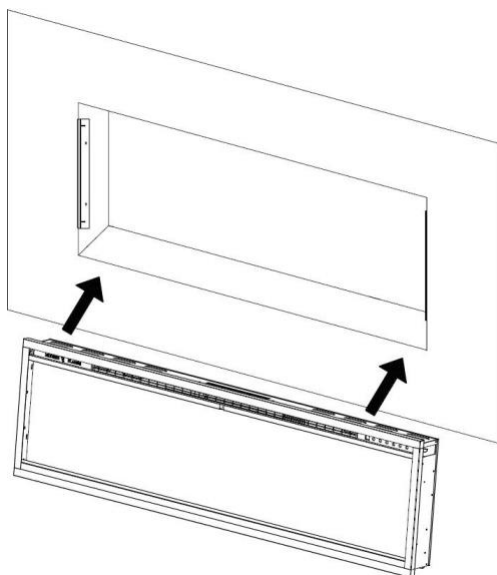
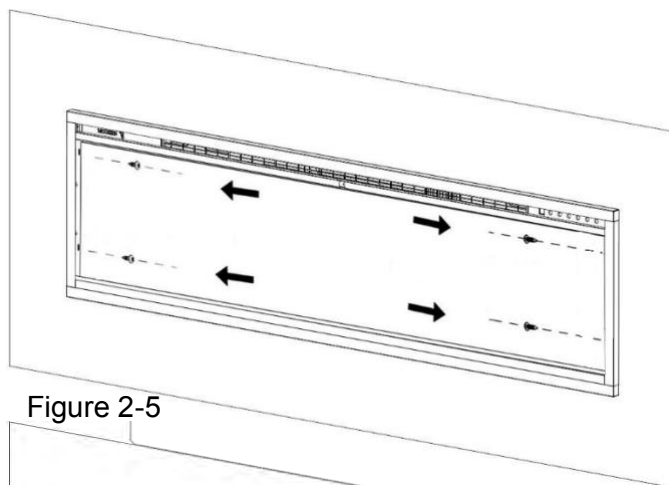

Figure 2-4
Figure 2-5
E. Insert the appliance into the rough-in frame (Fig. 2-4) and then secure it by installing 4 screws (supplied) into the slots on the insides (2 per side) (Fig. 2-5). Next reinstall the two brackets and 4 screws previously removed. (Fig. 2-6).